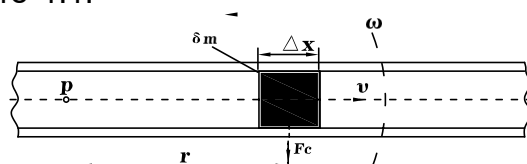

Figure 1-1
If a pipe is rotated around a point (P) while liquid is flowing through it (toward or away from the center of rotation), that fluid will generate an inertial force, with reference to Figure 1.1:
The force generated by tangential acceleration is Coriolis force, its value is equal to $F_c = 2wv\delta_m$. In figure 1.1 fluid $\delta_m = \rho A \times \Delta X$, So Coriolis force can be expressed as: